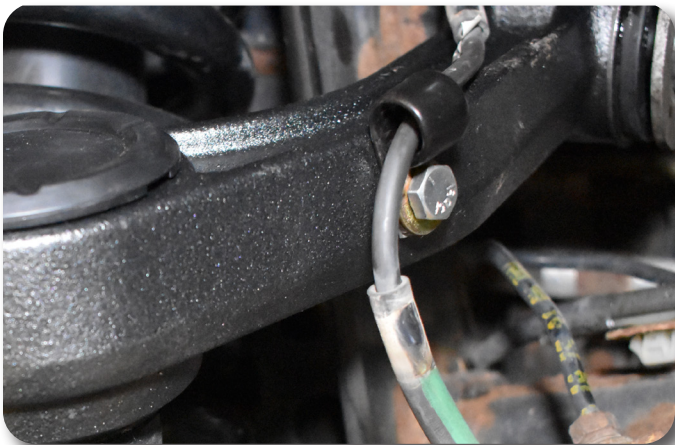

Figure 17
21. Using the provided loop clamp, bolt and washer, attach the ABS line to the UCA. Figure 17